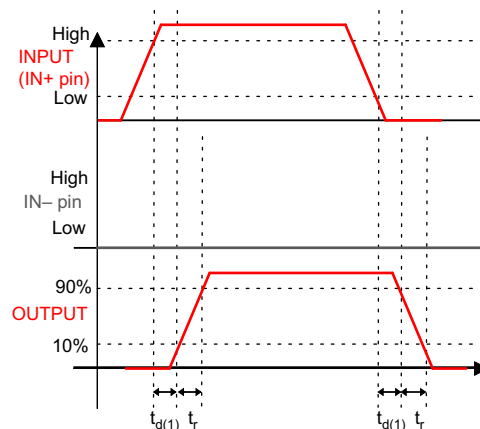
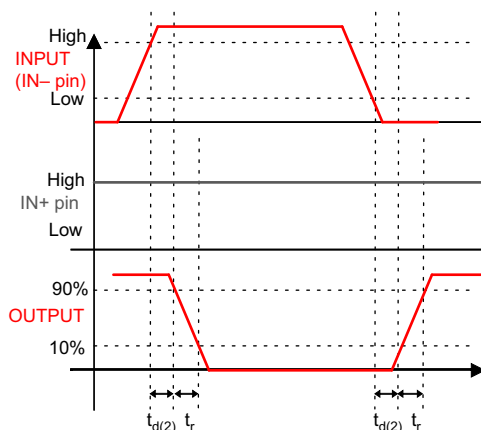

图 5-1. Non-Inverting Configuration (PWM Input to IN+ pin (IN – Pin Tied to GND), Output Represents OUTH and OUTL Pins Tied Together in the UCC27511A)
图 5-2. Inverting Configuration (PWM Input to IN – Pin (IN+ Pin Tied to V_{DD}), Output Represents OUTH and OUTL Pins Tied Together in the UCC27511A)
$V_{DD} = 12\text{ V}$, $T_A = T_J = -40^\circ\text{C}$ to 140°C , $1\text{-}\mu\text{F}$ capacitor from V_{DD} to GND. Currents are positive into, negative out of the specified terminal. See 图 5-1, 图 5-2, 图 5-3, and 图 5-4
(1) See timing diagrams in 图 5-1, 图 5-2, 图 5-3, and 图 5-4.